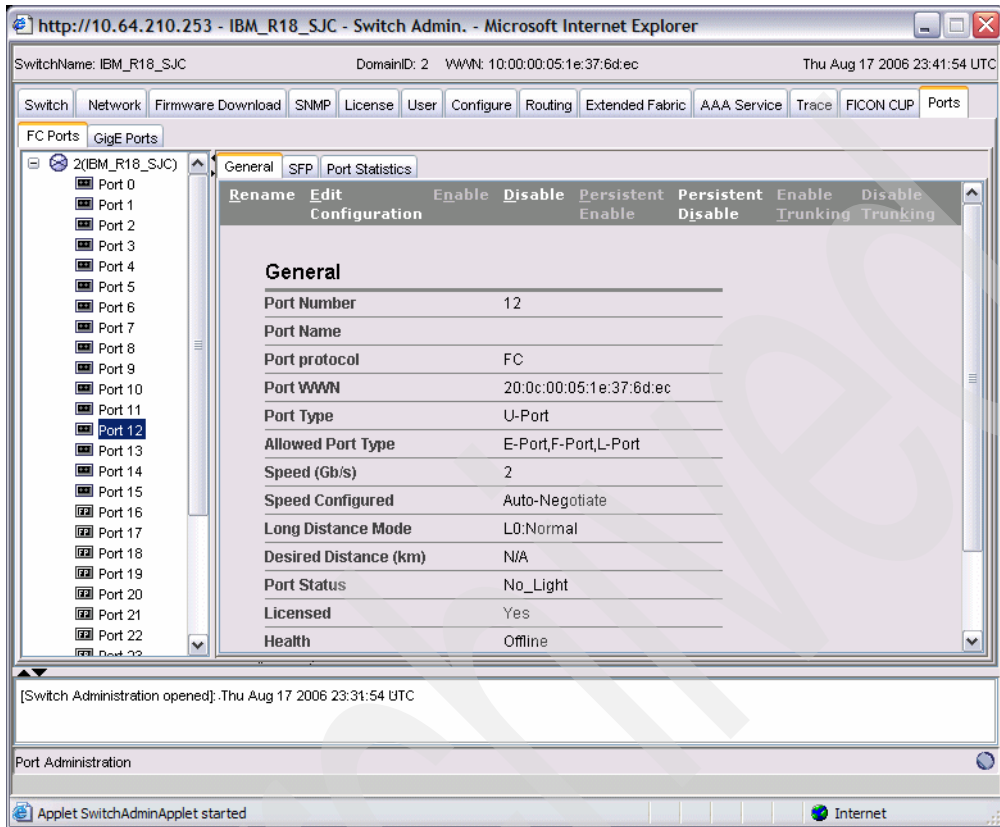

Figure 6-79 Disabling Port 12
2. We now need to disable the port, because its configuration will change (Figure 6-79).